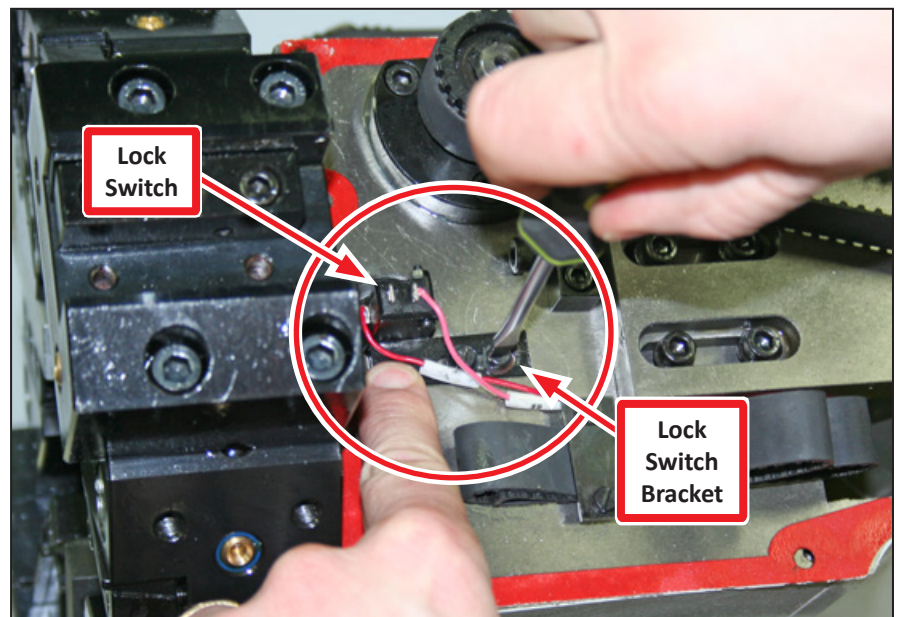

Figure 44
6. Use a flat-head screwdriver to loosen two screws on the lock switch bracket (see **Figure 44**).